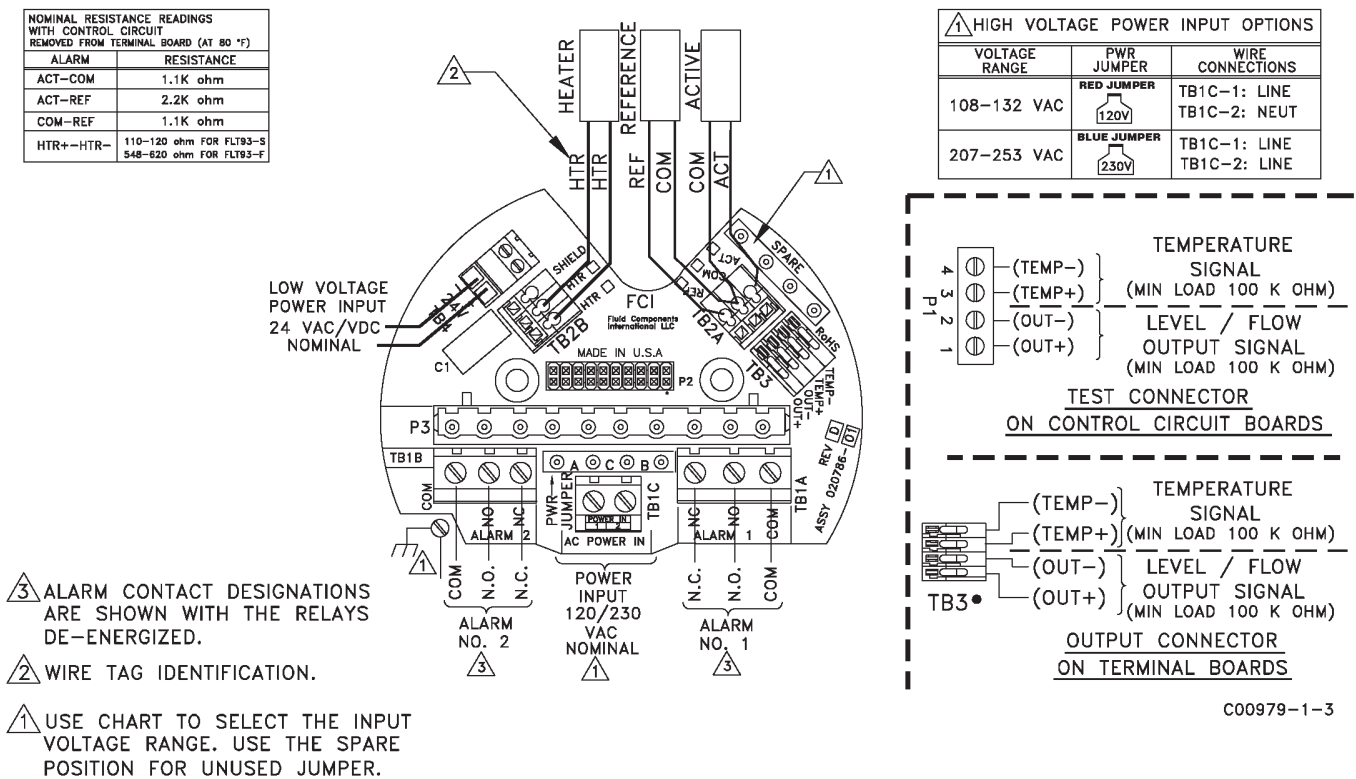

Figure 9 – Local Wiring Diagram
- When connecting the relay wiring, do so with complete understanding of what the process requires of the instrument. The instrument has dual SPDT or single DPDT relay output contacts dependent on the jumper configuration for each alarm switch point. For the relay terminals and logic, refer to Figure 9 below. Also refer to Table 3-5 and Table 3-6 in Section 3 - Operation. Relay contacts are shown with the relays de-energized.
The primary outputs on the FLT are the relays. Voltage outputs relative to flow/level and temperature are provided on the terminal board at TB3. The signal voltage at positions 1 and 2 represents the process change (non-linear to flow). The signal voltage at positions 3 and 4 is proportional to the temperature at the sensing element. See Figures 9 and 10. See also Section 3 for the physical layout of the control circuit.